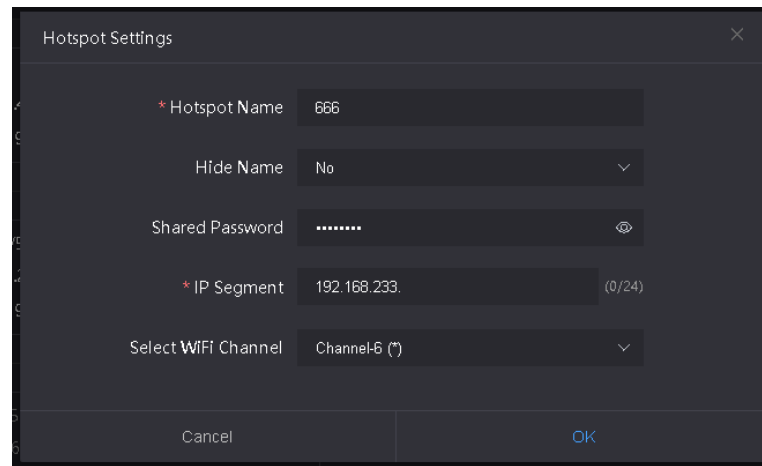

Figure 23 AP Settings Pop-up Interface
To configure an Access Point (AP), click on "AP" -> "Settings" button, and fill out the AP settings in the popup window (refer to Figure 23). Configure shared settings such as Wi-Fi hotspot name, password, default IP subnet to use, and Wi-Fi channel.